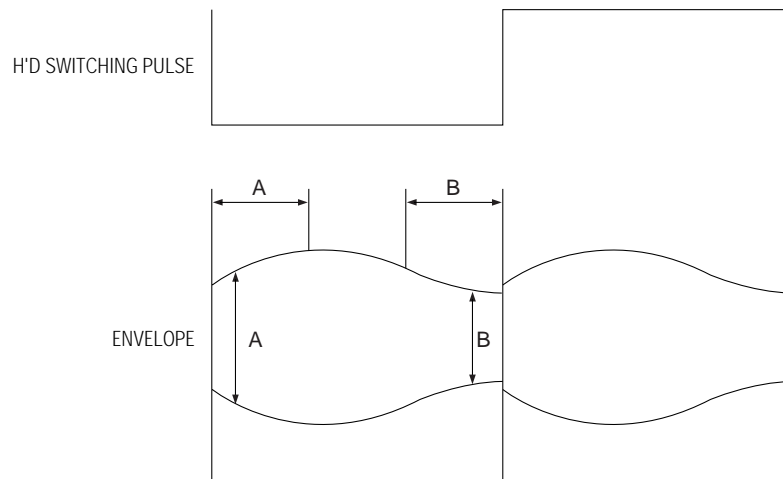

Fig. 6-15 Adjustment Points
- 4) If the section A in Fig. 6-15 does not meet the specification, adjust the guide roller S up or down.
- 5) If the section B in Fig. 6-15 does not meet the specification, adjust the guide roller T up or down.